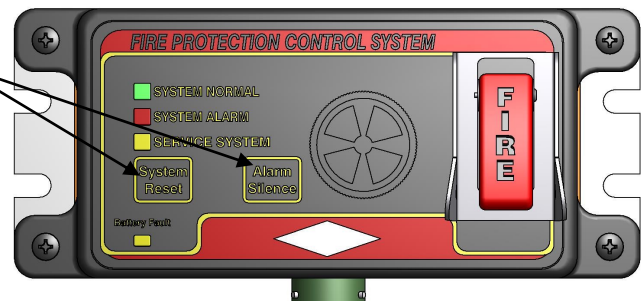

Figure 4.6.3a
**Enter Programming Mode** - The Operator Panel programming mode is started by pressing and holding the ‘System Reset’ button and ‘Alarm Silence’ button for a period of 5 seconds (See Figure 4.6.3a). Programming mode is indicated by two LED flashes and two audible alarm beeps. The Operator Panel will automatically exit programming mode and return to normal after one minute, if no programming functions are performed, as indicated by a single LED flash and audible alarm beep. NOTE: The Operator Panel is disabled while in programming mode.